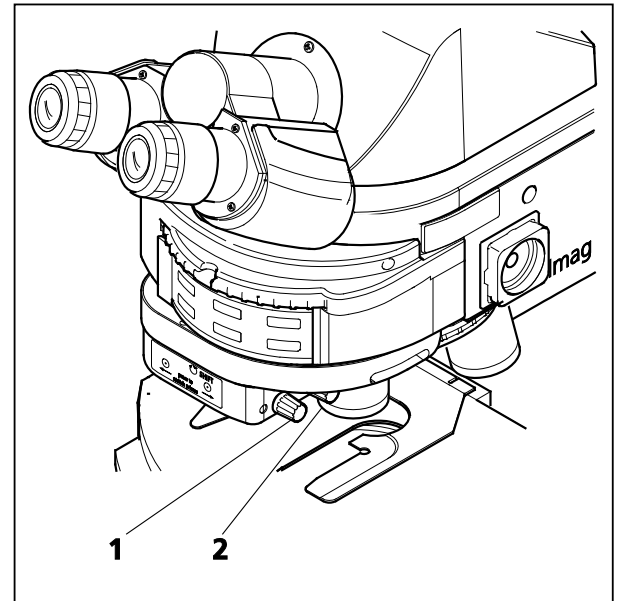

Fig. 198 Motorized four-position modulator turret for transmitted-light DIC
(4) Adjusting the transmitted-light DIC with motorized four-position modulator turret for transmitted light
- On the modulator turret, swivel in the appropriate DIC prism by **pressing** knob (Fig. 198/1) for forward rotation or knob (Fig. 198/2) for backward rotation of the turret.
- Set the optimum contrast by turning knob (Fig. 198/2).